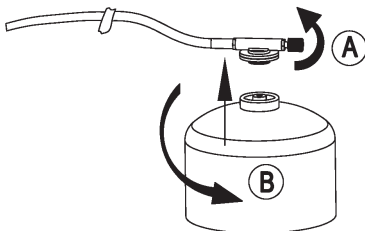

Figure 1
CONNECT THE GAS CARTRIDGE (FIGURE 1 , PAGE 13)
- (1) As shown in **Figure 1-A**, turn the control knob ⑪ clockwise until it stops (the arrow points to "-"), to close the gas connection.
- (2) Check the condition of the sealing ring ⑤. If the gasket is damaged, worn, or missing, do not use the device, and contact a after-sales representative to replace the gasket.
- (3) As shown in **Figure 1-B**, tighten the gas cartridge (counter clockwise) and the fuel gas connector.
- (4) Place the gas grill and gas cartridge on the same solid surface, and pay attention to keeping the flexible gas pipe away from the gas grill (flame).